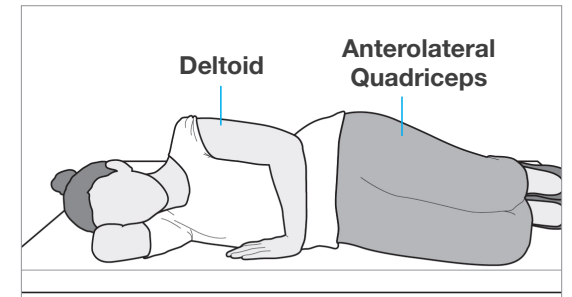

Figure 32 Patient Position
10. Select an injection site in the thickest part of the deltoid muscle in the upper arm (see Figure 32).
11. Position the patient so that he or she can be stabilized during treatment (Recommended position: on his/her side as shown) (see Figure 32).